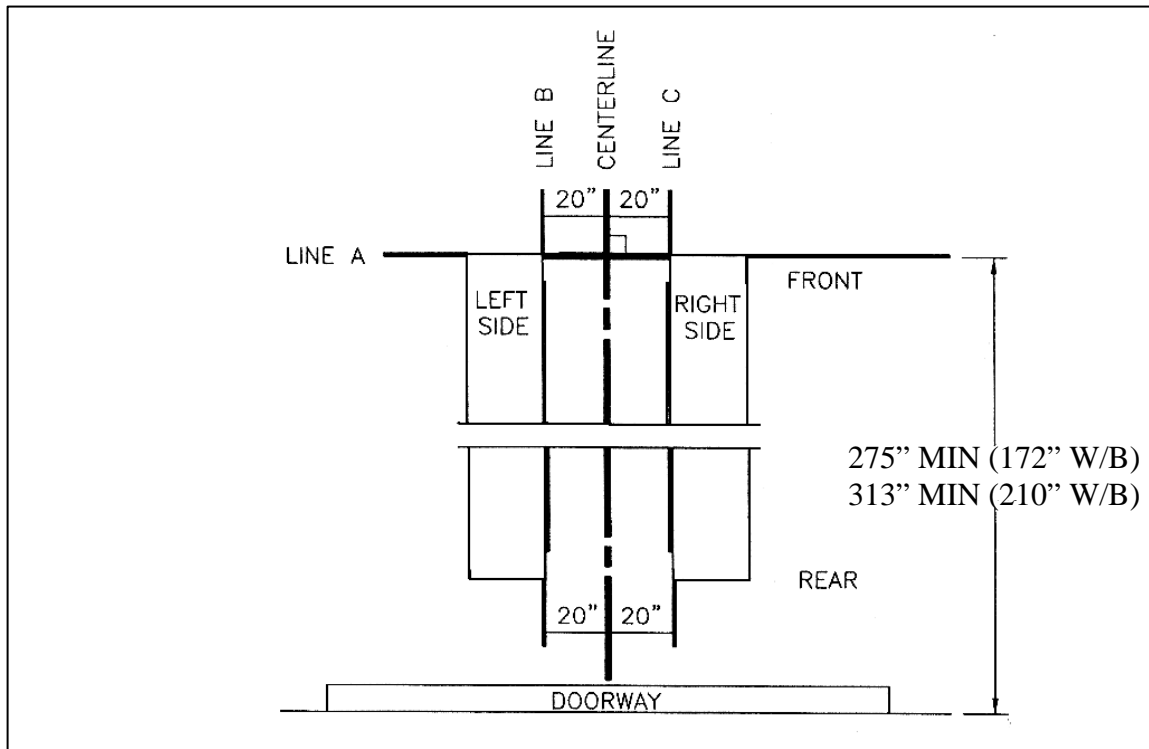

Figure 2. Chalk line layout
- An outline matching the dimensions shown in Figure 2 will need to be marked on the floor. Refer to Figure 2 for outline dimensions. Refer to General Lift Specifications for overall lift dimensions.
- **Refer to Figure 2.** Make a chalk line parallel to the doorway at least 275" (172" W/B) / 313" (210" W/B) in from the doorway. This will be the location for the front face of the front crossmember (and the front edge of the two deck assemblies). Call this line "A".
- Remove the left and right deck assemblies from their packaging and place them on axle stands as follows (see Figure 2):
- At this point the decks should be completely fastened to the crossmembers and the threaded portion of each cable should be routed through the crossmembers, past the lock safety. Before proceeding, check that the layout matches that shown in Figure 2, that the lift is square and that there is a 40” gap between the decks along their entire length.